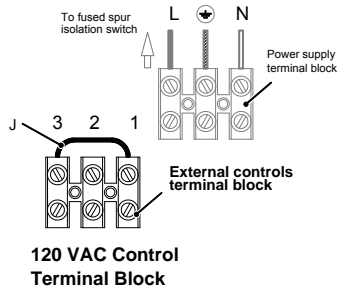

Figure 12.10
- When connecting the zone valve switch, the jumper J in Fig. 12.10 must be removed.